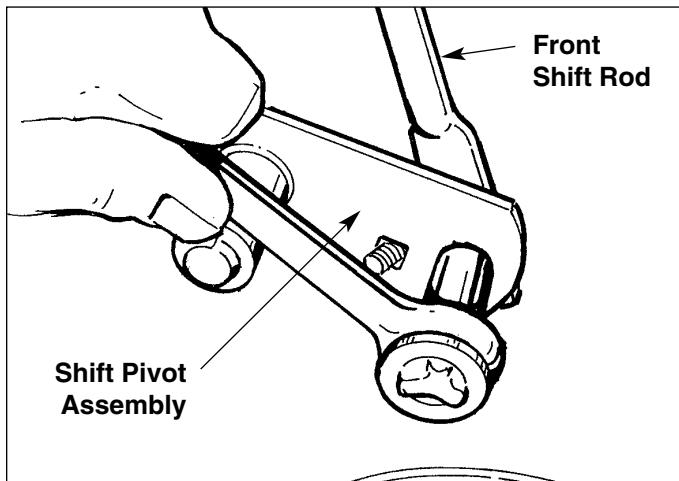
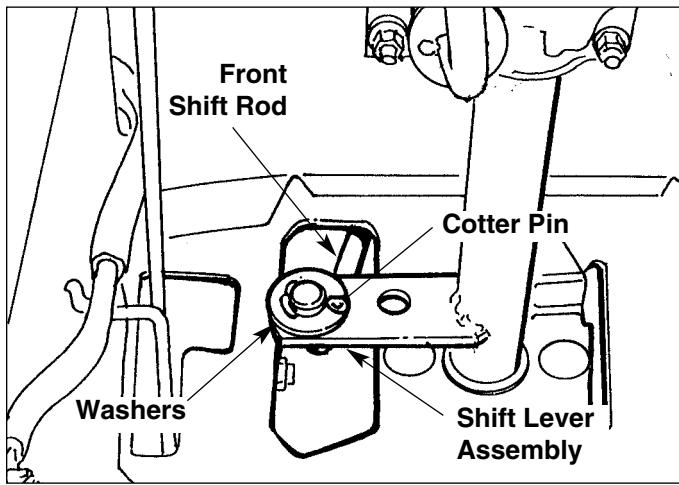
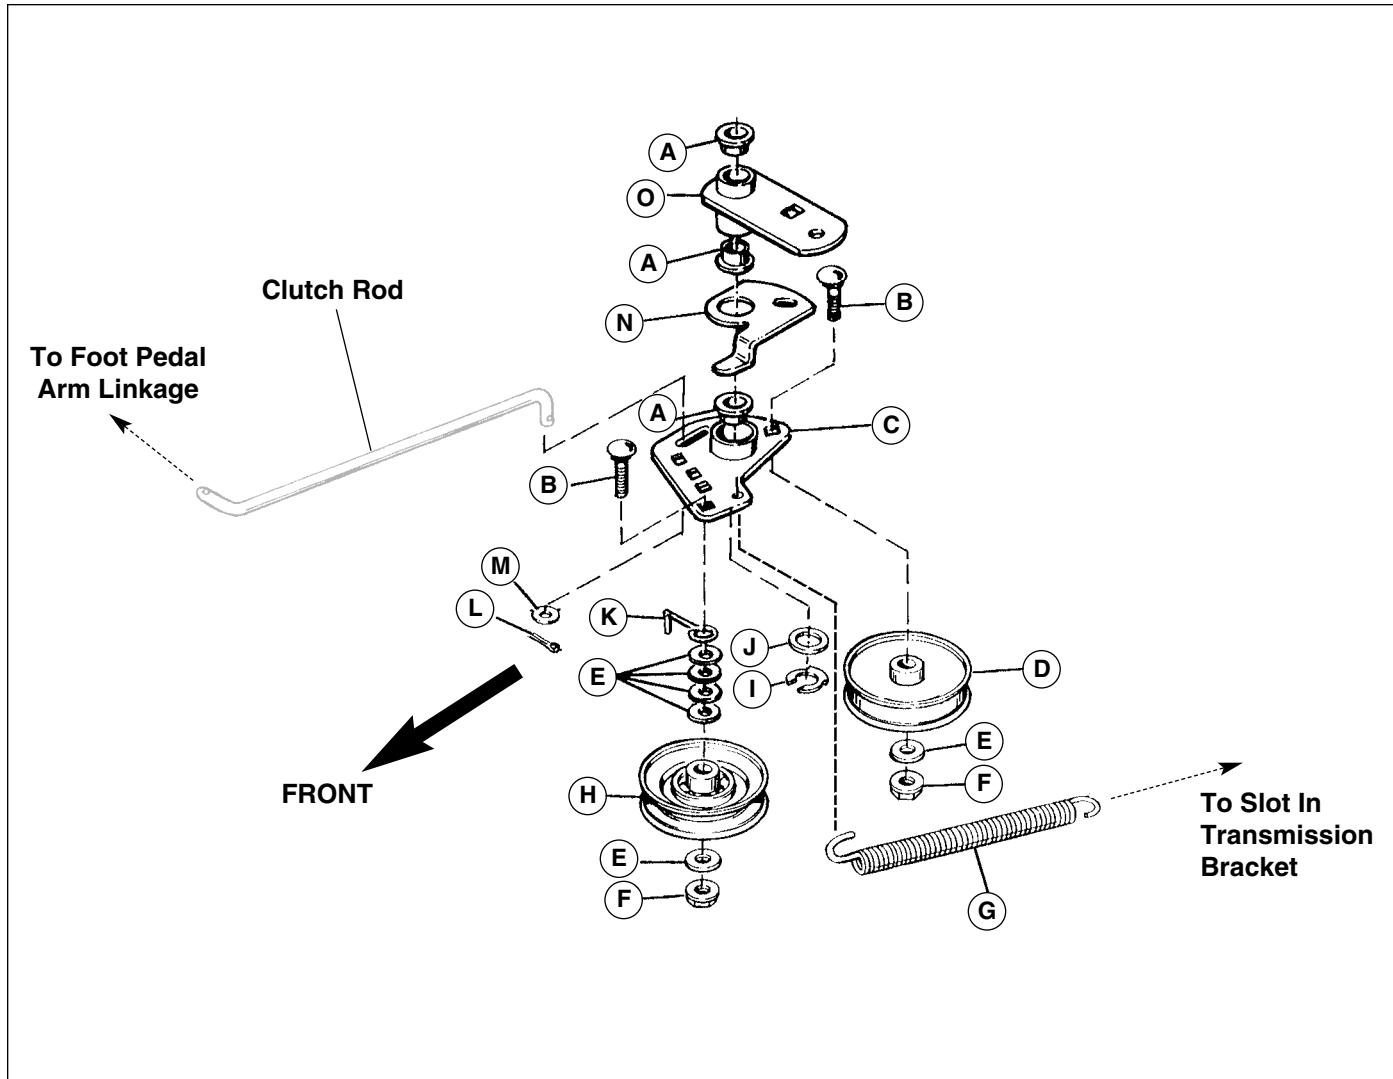

Figure C-21. Shift Pivot/Front Shift Rod Assembly
Figure C-22. Front Shift Rod/Shift Lever Assembly
Figure C-23. Broadmoor Hydro Foot Control - Idler Arm Assembly Parts - Hydro-Gear
Refer to Figures C-23 through C-25 for transmission-specific parks breakdowns.
See Figure C-23 for a complete part breakdown.
1. See Figure C-21. Remove the hex nut that secures the lockout lever to the shift pivot assembly. (See Figure C-23 for complete hardware details.)
3. See Figure C-22. If necessary, the rear shift rod may also be removed and replaced at this point. Remove the hex nut and related hardware that secure the rear shift rod to the speed control lever on the transmission (See Figure C-23).
See Figure C-23 for a complete parts breakdown.
1. See Figure C-21. Unscrew the hex nut and related hardware used to connect the shift pivot assembly to the front shift rod.
3. See Figure C-22. If necessary, the front shift rod may also be removed and replaced at this point. For easiest access, remove the battery (see "Hand Controls" section), then remove the cotter pin and washers that secure the front shift rod to the shift lever assembly.
1. Remove the cotter pin and washer that secure the rear end of the clutch rod to the idler arm and front end of the rod guide (See Figures C-23 through C-32).